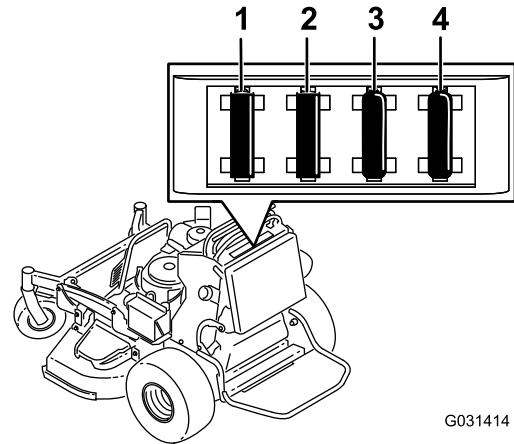

Figure 50
2. Pull out the fuse to remove or replace it (Figure 50).
Note: Ensure that the correct-size fuse is installed Figure 50.